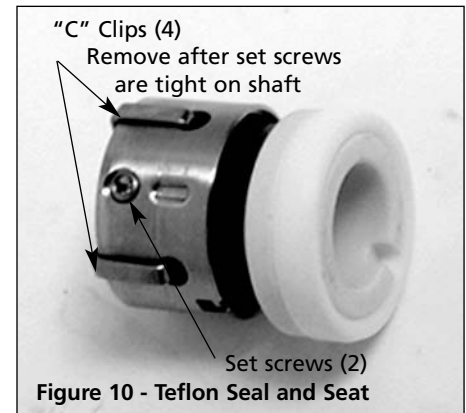
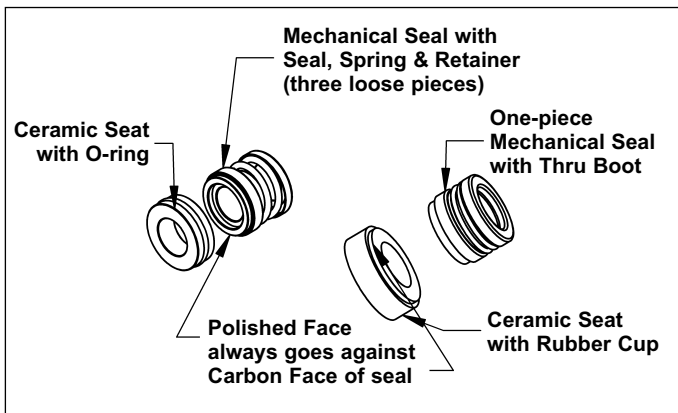

Figure 10 - Teflon Seal and Seat
Figure 8 - Seal Types and Parts Identification
piece while the other style has a seal boot, spring and spring retainer. The seal seats can also be of two styles; one has a rubber boot and the other has an o-ring. Identify which type you have (See Figure 8). (For the Teflon seal, see the following note and Figure 10.)
**NOTE:** When installing the Teflon seal, the procedure is modified. The seat retainer/seal seat/anti-rotation pin assembly is then placed over the shaft assembly and against the ball bearing. The polished face of the ceramic should be showing. The mechanical seal comes with several "C" clips on either side (Figure 10).
Tighten the set screws on the mechanical seal so that it is tight to the shaft (See Figure 10). Now remove the "C" clips from the seal to actuate the springs and spring tension on the seal face. The seal is now installed. Unlike the "boot" seals in Viton and Buna, an external retaining ring (Ref. No. 13) is not required to hold the seal. The set screws accomplish that. The Teflon mechanical seal is shorter than the boot seal. As such, it will not extend all of the way to the retaining ring groove. This is normal.